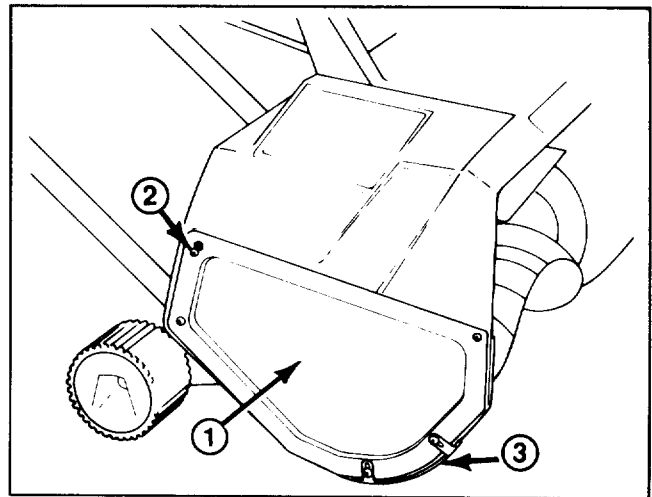

Figure 10
1. Remove (5) screws securing right side cover and skid to snowthrower frame (Fig. 10).